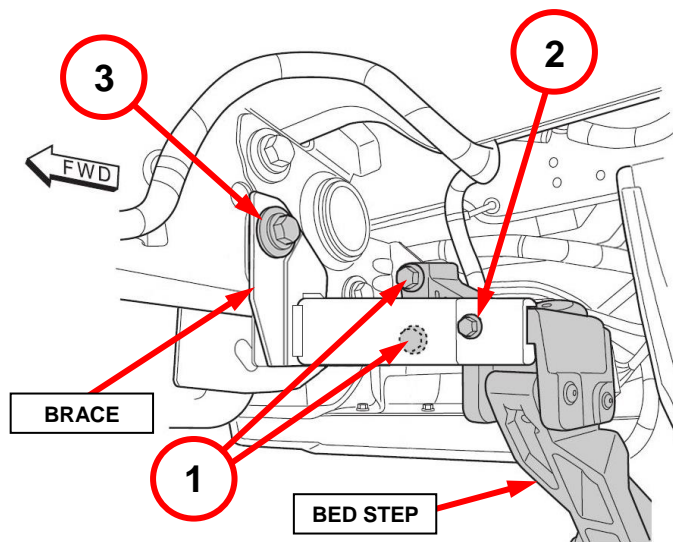

Figure 4 – Bolt Tightening Sequence
7. Tighten the bolts in the following sequence (Figure 4):